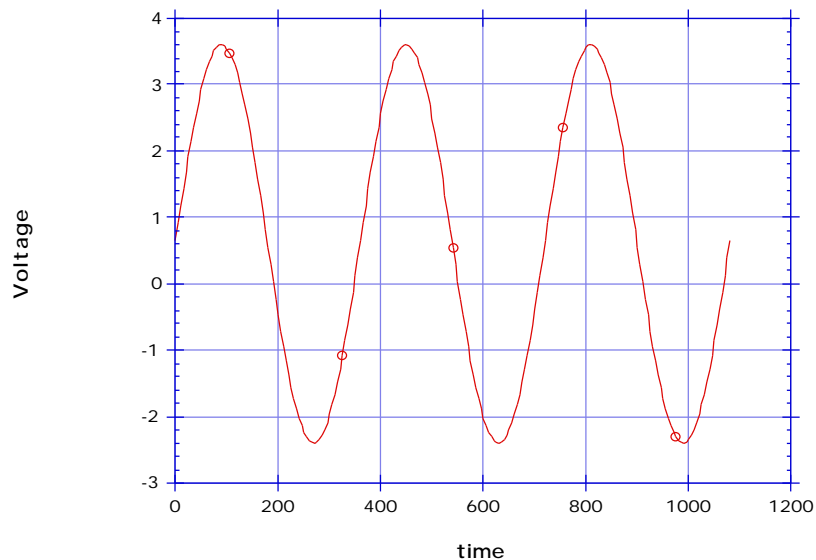

Figure 1: A 3 V sine wave with 0.6 V offset
1. *Scope Coupling*: The scope y inputs can be ac or dc coupled. The ac coupling blocks the constant part of the signal. Add some dc offset to the function generator output and switch between ac and dc coupling. Observe the effects on the scope. Figure 1